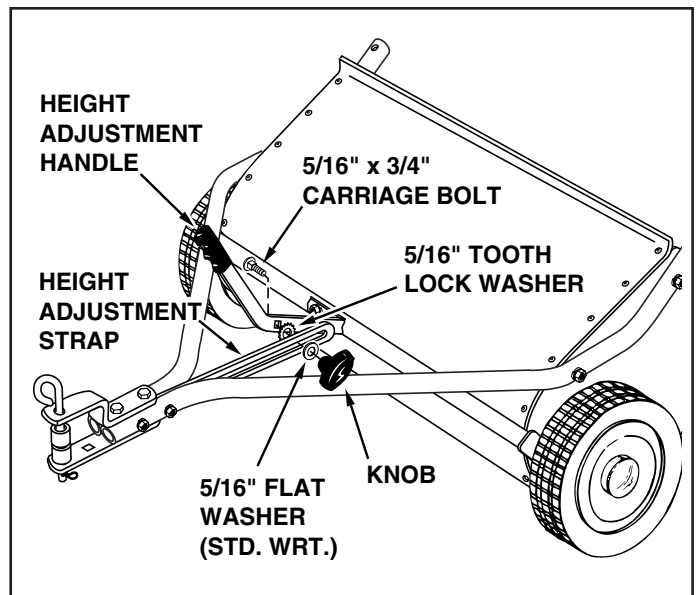

FIGURE 6
12. Place the 5/16" tooth-lock washer between the height adjustment handle and the height adjustment strap. Insert the 5/16" x 3/4" carriage bolt through the handle, the tooth-lock washer and the strap. Assemble the 5/16" Std. Wrt. washer and the plastic knob onto the end of the bolt and tighten. See figure 6.